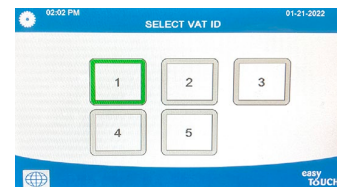

Figure 31
26. Attach the controller to the bezel reversing steps 4, 5 and 6. Attach using the two (2) screws removed in step 4.
27. For new controllers without a locator wire, the Vat ID must be set up correctly to operate correctly and avoid a duplicate Vat ID error. At bootup, if a **DUPLICATE BOARD VAT ID** is detected, **ALL** controllers display the VAT ID setup screen (see Figure 31). Select the correct VAT ID for **each vat**. Vat ID #1 is far left controller. Vat ID #2 is the next controller to the right, etc. If changes are required, go to Service>Service>3000>Tech Modes>Select Vat ID. Ensure the Vat ID is set up for correct vat ID number. Once all VAT IDs are selected, power cycle the fryer battery using process in Step 2 on the first page.